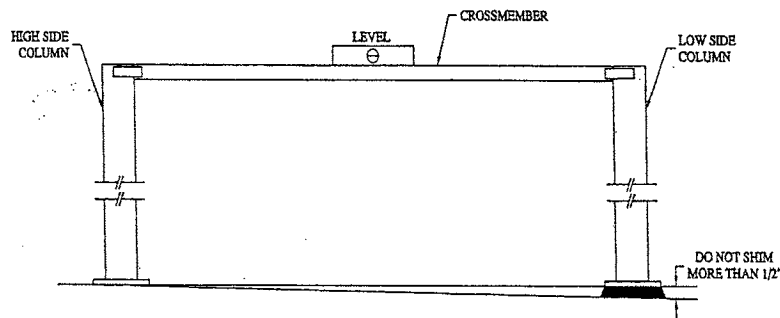
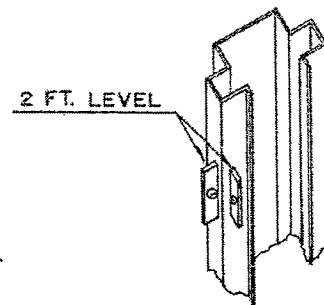
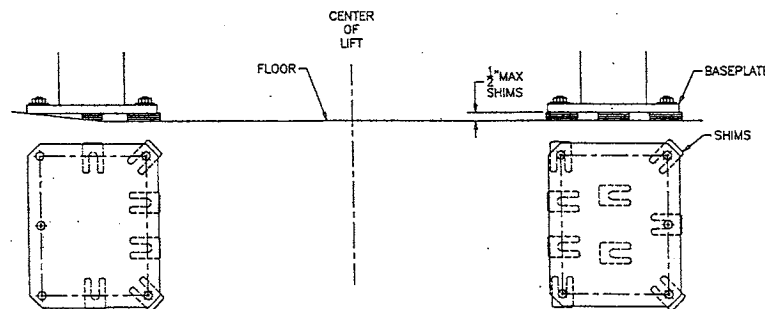

Figure 13
Figure 14
Figure 15 - Shims
1. Using a 4ft. level on top of the crossmember, determine which column is higher. Refer to **Figure 13**.
2. Using a 2ft. level on the sides of the high column, ensure that the column is level in the vertical position (**Figure 14**). Use shims under the column baseplate to hold the column level. Ensure that the base plate is completely supported by shims where it does not contact the floor (**Figure 15**).
Reconfirm that the column is level front to rear and side to side (**Figure 14**). Add or remove shims as required.
Using a 4ft. level on top of the crossmember (**Figure 13**) and a 2ft. level on the low side column (**Figure 14**), shim underneath the baseplate until the crossmember and column are level. Ensure that the baseplate is completely supported by shims where it does not contact the floor (**Figure 15**).
3. Reconfirm that the column is level front to rear and side to side (**Figure 14**). Add or remove shims as required.